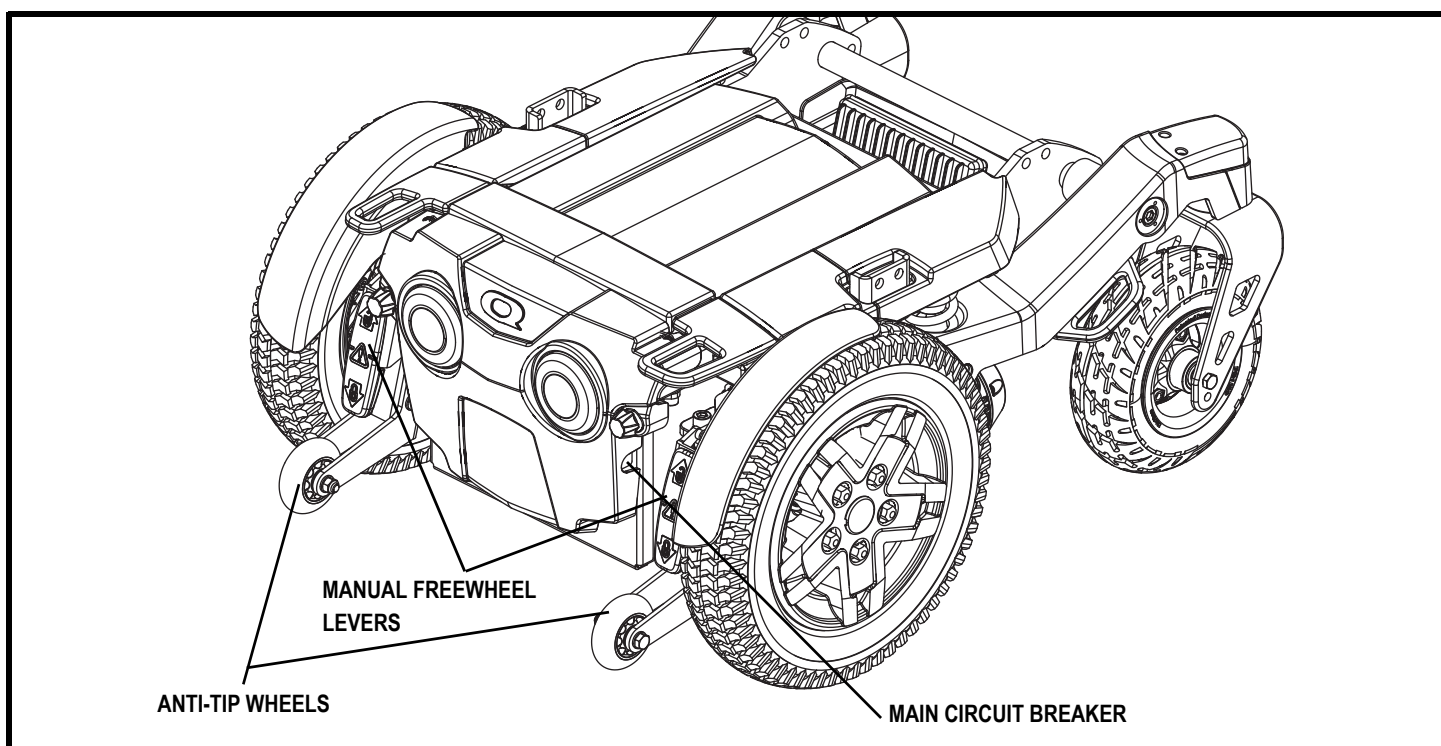

Figure 6. The Lightning Power Base
The electrical components are located on the front of the power base. See figure 6.
**Main Circuit Breaker:** The main circuit breaker is a safety feature built into your power chair. When the batteries and the motors are heavily strained (e.g., from excessive loads), the main circuit breaker trips to prevent damage to the motors and the electronics. If the circuit trips, allow your power chair to “rest” for approximately one minute. Next, push in the circuit breaker button, turn on the controller and continue normal operation. If the main circuit breaker continues to trip repeatedly, contact your authorized Pride Provider. The main circuit breaker may be located on either the left or right side of your power chair. See figure 6.